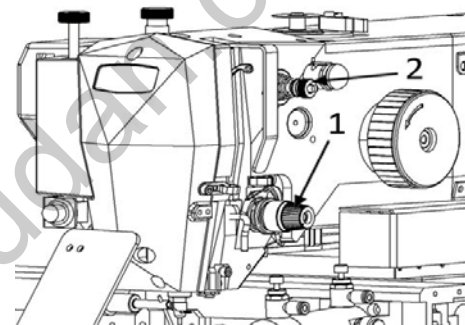

Fig. 11
A. Needle thread tension adjustment, fig. 11: